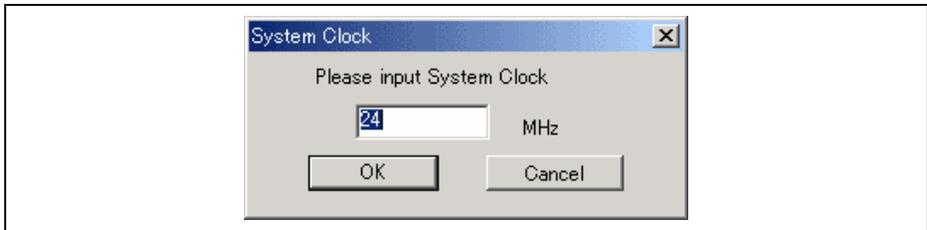

Figure 3.13 [System Clock] Dialog Box
13. When using the MCU with flash memory, the dialog box shown in figure 3.13 is opened. Input the system clock value.